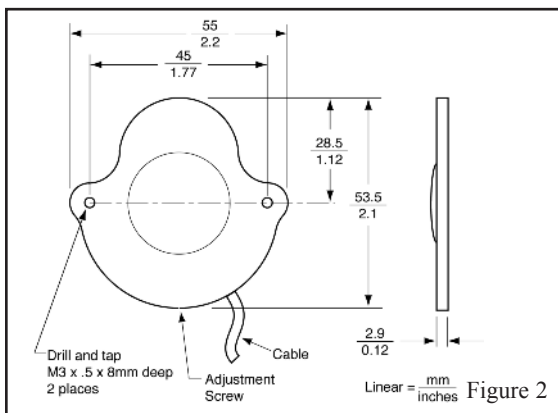

Figure 2
3. Drill and tap two mounting holes M3 x .5 x 8mm deep in the location of the switch or the mounting clip depending on your installation. (See Figures 2 and 5)
- The actuation height of the switch is adjusted by turning the set screw with included hex key (see Figures 2 and 3).